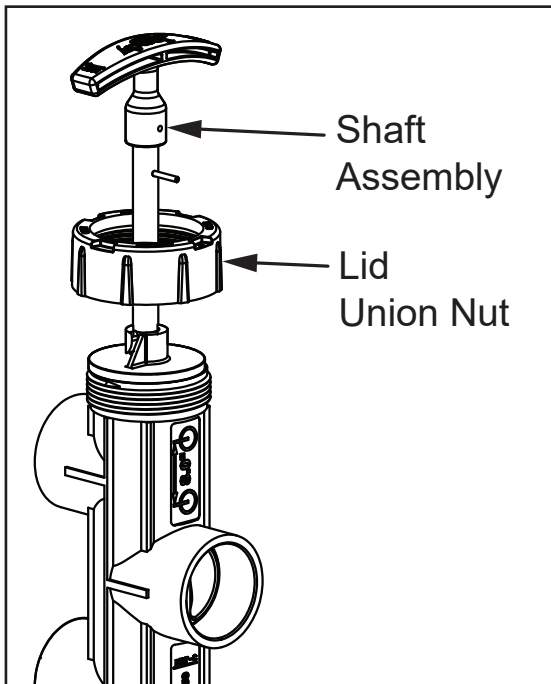

Figure 9. Loosen Lid Union Nut
2. Loosen the lid union nut. See Figure 9.
3. Loosen the lid union nut. See Figure 9.